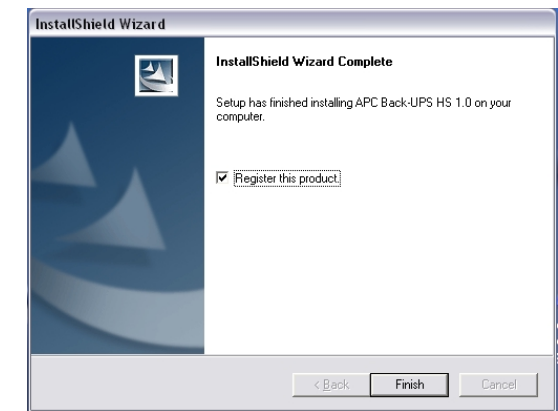

Figure 6. InstallShield Wizard Complete Screen
6. The software then displays the **InstallShield Wizard Complete Screen** (Figure 6). Select **Finish** to quit the installation program..